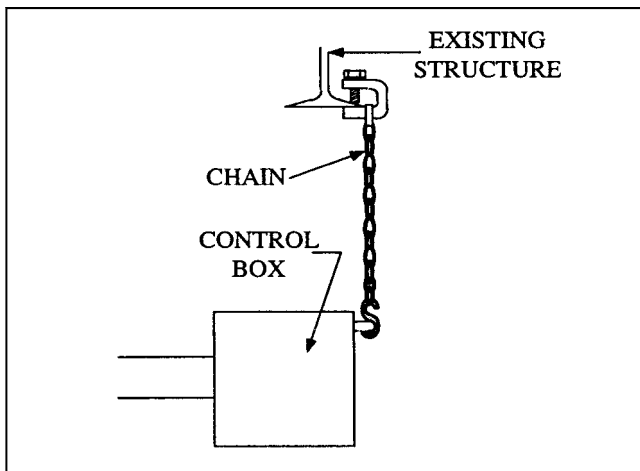

Figure 1-3
**NOTE:** All “S” hooks must be closed. (Figure 1-3). An accessory THCS chain set is available that includes a 5 foot length of chain and two “S” hooks.